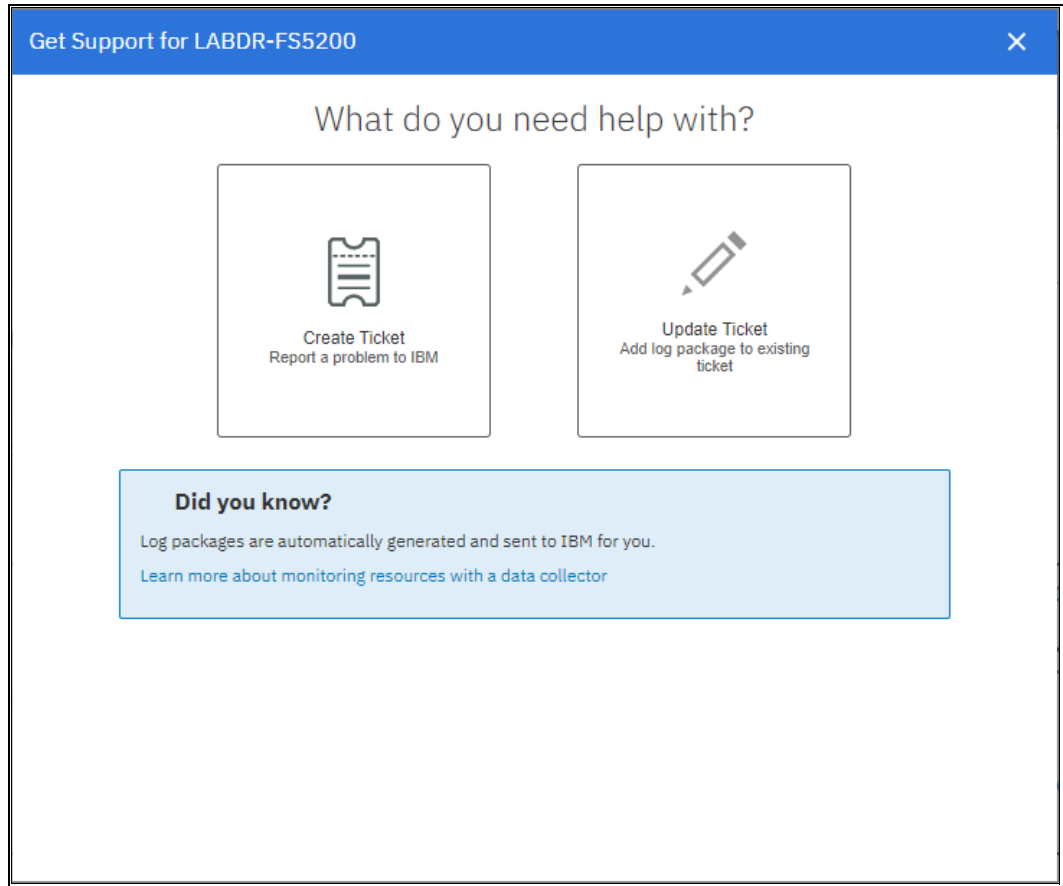

Figure 11-20 Create Ticket option
2. Select **Create Ticket** (see Figure 11-20). Several windows open in which you enter information about the machine, a problem description, and the option to upload logs.